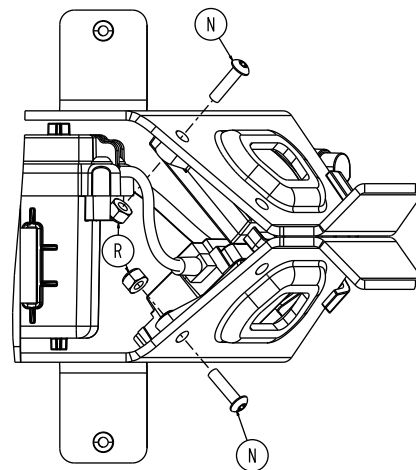

Figure 103 – Remove the wireless module screw and nut
25. Using a T25 Torx driver and a 3/8" combination wrench, remove the button head cap screw (N) and Fiberlock nut (R) that secure the wireless module, if equipped, and the NFMIC module to the cot, if equipped (Figure 103). Save the screw and nut.